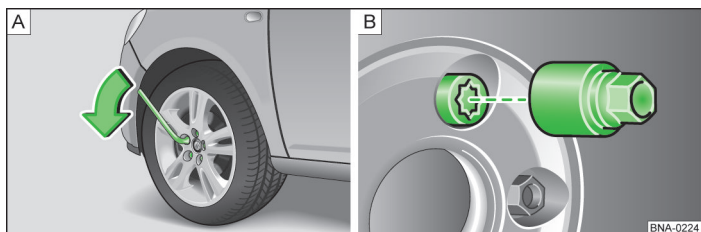

Fig. 78 Changing a wheel: slackening the wheel bolts / Anti-theft wheel bolt and adapter
- Push the wheel wrench onto the wheel bolt up to the stop » fig. 78 - **A**.
- Push the adapter onto the anti-theft wheel bolt up to the stop » fig. 78 - **B**.